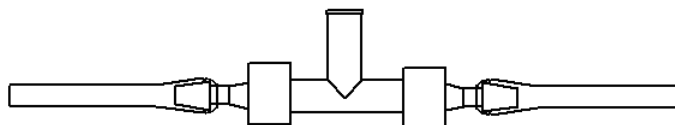

Figure 50. Manifold Plumbing Piece
- 2 Locate the manifold pieces (see Figure 50), as described in “Identify Reagent Plumbing Setup” on page 65, and detach them from the module. Insert an extra plug in the opening. There can be up to 9 manifold pieces per module: